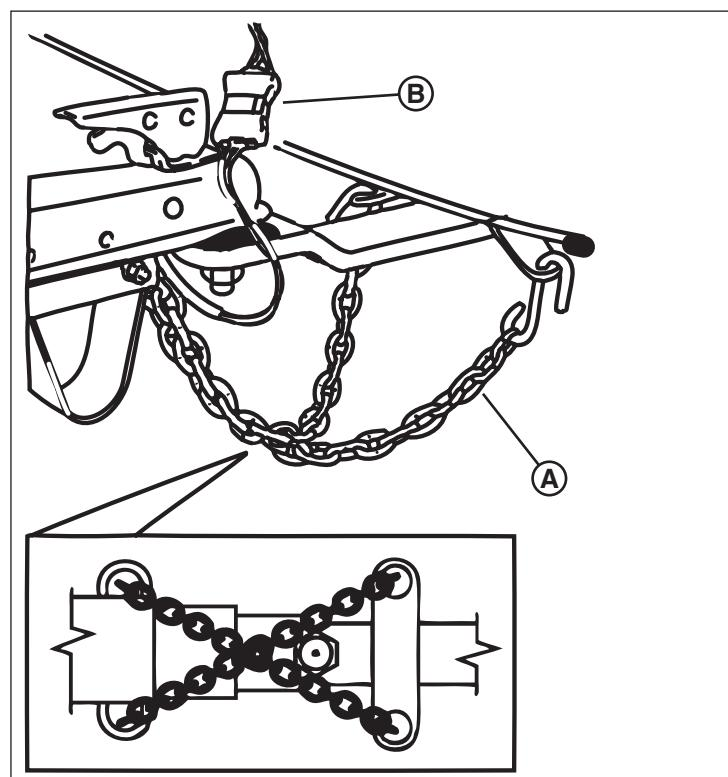

Figure 11
- Attach the safety chains (A, Figure 11) to the tow vehicle's hitch frame. Cross the chains under the tongue as shown in Figure 11. Leave enough slack in the chains to allow for turns, but not so much that the chains will contact the road surface.
- Connect the trailer lighting connector to the tow vehicle's connector (B, Figure 11). Make sure the trailer lighting harness has adequate length to prevent disconnection when turning, but not so much length that the harness will contact the road surface. Check the stop, turn signal, tail, side marker and license plate lamps for proper operation.